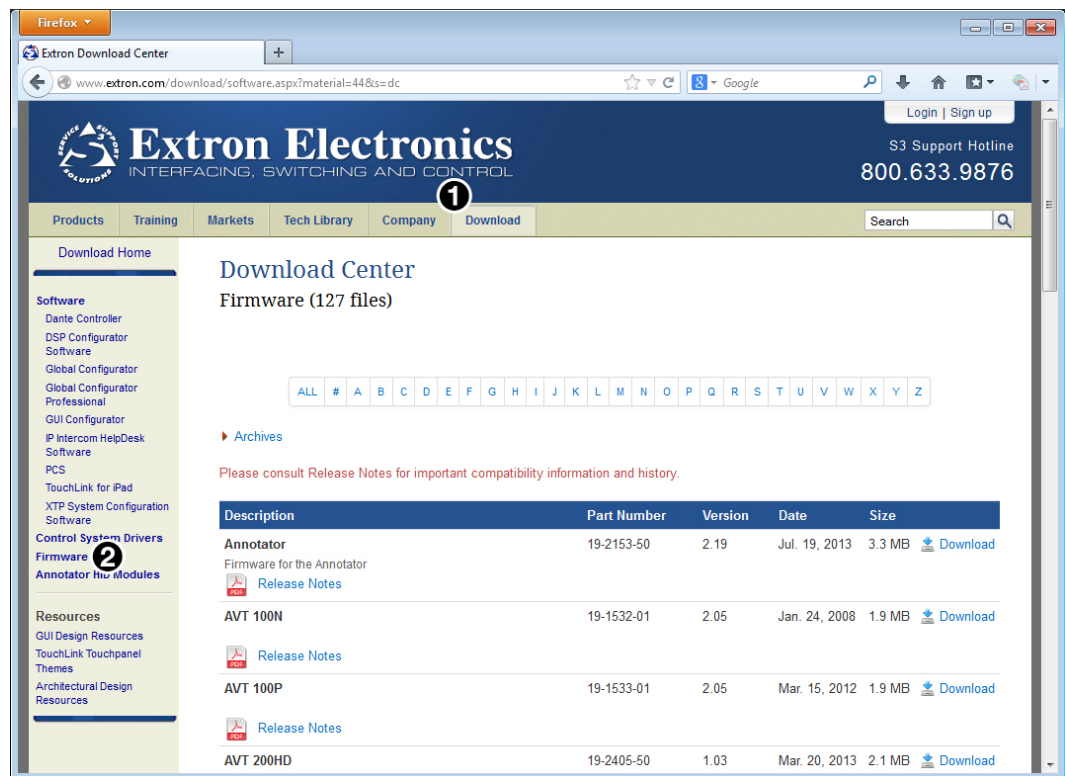

Figure 38. Downloading Firmware from the Extron Website
1. On the Extron website, click the **Download** tab (see figure 38, ①).
2. From the left sidebar, click the **Firmware** link (②).